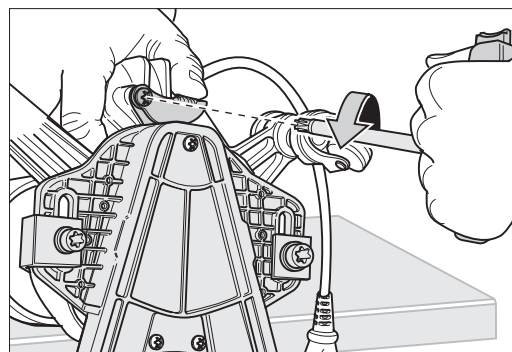

Fig. 28 Undo the screw with which the belt tightener plate is fastened.
- 4 Use the universal spanner to undo the screw with which the belt tightener plate is fastened (Fig. 28).